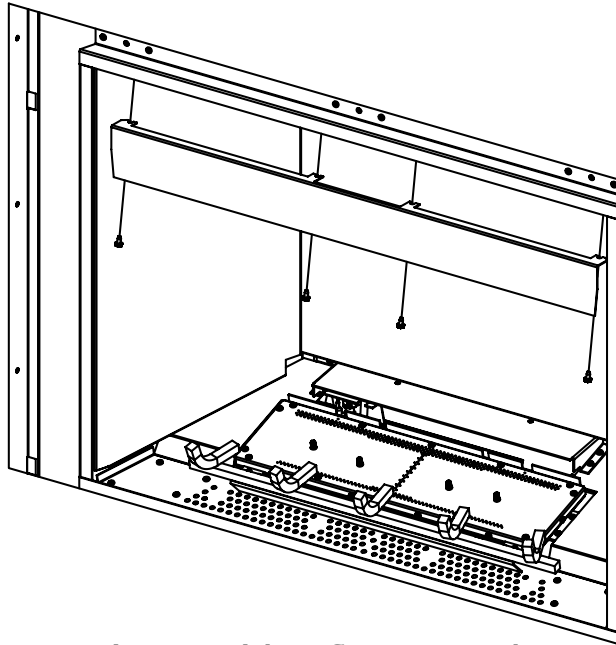

Figure 68: Light Deflector Removal
Step 2. Remove light deflector by loosening four retaining screws with a 5/16 socket (see Figure 68).